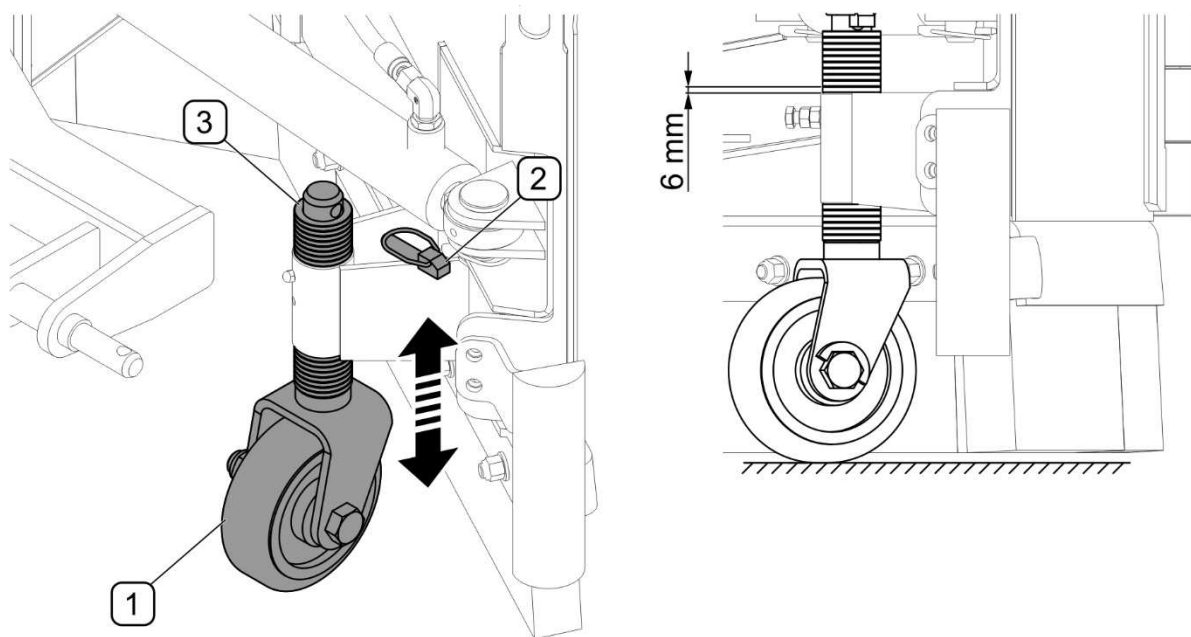

FIGURE 4.6 Working height adjustment in the snowploughs equipped with wheels.
(1) - slide; (2) - slide guide; (3) - pin; (4) - securing cotter pin
In the snowploughs equipped with wheels (FIGURE 4.6), the working height adjustment is performed by means of washers (3). To do this, take out pin (2) and remove wheel with washers (1). When a proper height is set, secure the wheel with pin (2). Location of the wheel in the guide can be changed every 6 mm. Adjustment of the left wheel and the right wheel is carried out in the same way. Both wheels should be set at the same height.